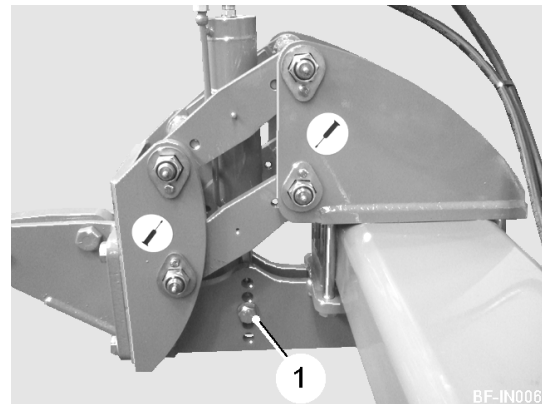

Fig 4
The working height of the outer ridger bodies can be adjusted by repositioning the ram pin (item 1, fig 4) into a different hole. Moving the pin into a higher hole will raise the ridger body, reducing the overall working depth.